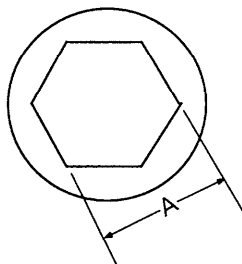

Figure 4. Across-flats dimension (A) on lug screws.
6. Attach the neutral cables to the lugs. Tighten each lug screw to the torque range specified in Table 2 for the "across-flats" dimension of the screw, as shown in Figure 4.